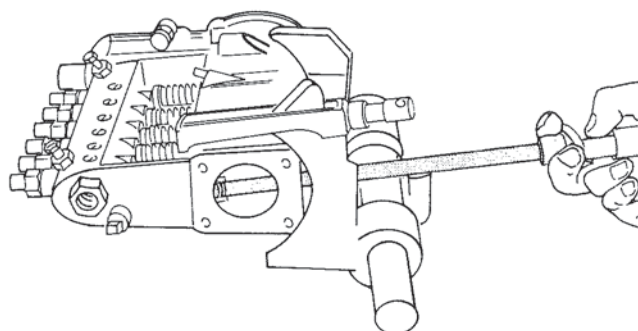

Figure 29. Removing Plunger.
A. Hold lower seat of plunger spring with plunger clamp, Special Tool No. 95905-01030, and remove plungers and lower seats through screw plug holes. Figure 29.